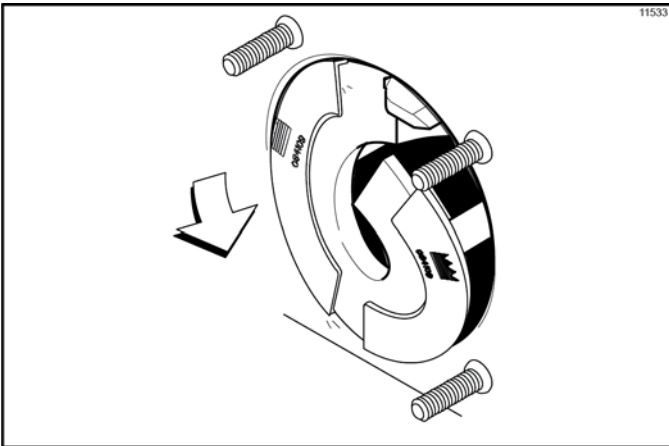

Figure 6-25
8. Slide the beater assembly the rest of the way into the freezing cylinder. Make sure the beater assembly is in position over the driveshaft by turning the beater slightly until the beater is properly seated. When in position, the beater will not protrude beyond the front of the freezing cylinder. (See Figure 6-25.)